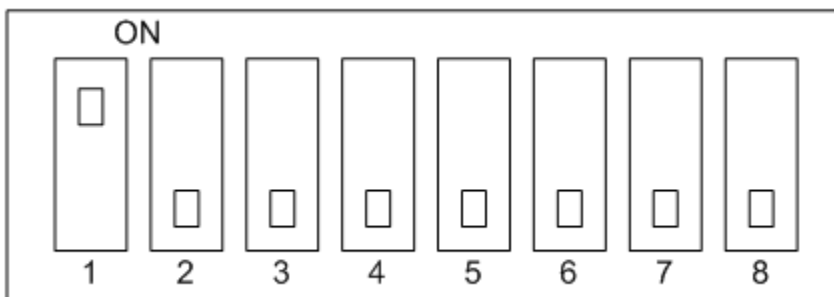

Fig. 3
If there is a dry contact or external thermistor used, set switch 1/2/3/4 for the respective input, see figure 3*. Sensor values will be sent to the present-value property of the Analog Input.
*Note: Figure 3 shows the DIP switch setting for UI-2, to configure UI-3/4/5 set switch 2/3/4.